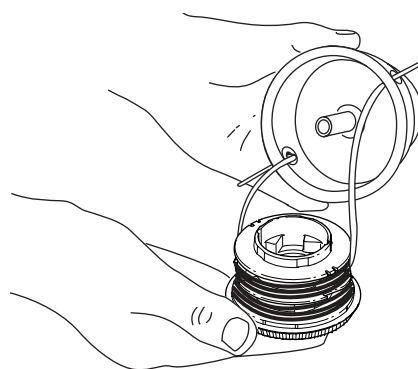

Fig. 48
3. Insert the ends of the prewound inner reel line into the outer spool eyelets (Fig. 48). Push the new inner reel, arrow side up, into the outer spool.
3. Pull the inner reel with existing line from the outer spool (Fig. 48).